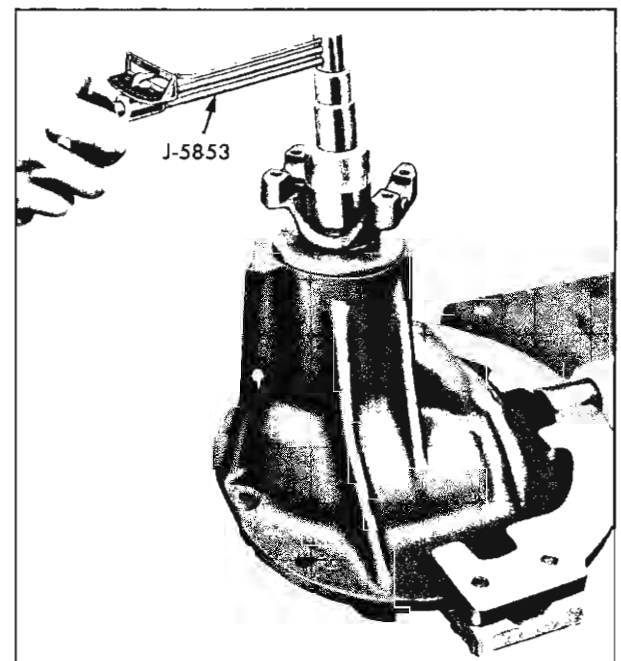
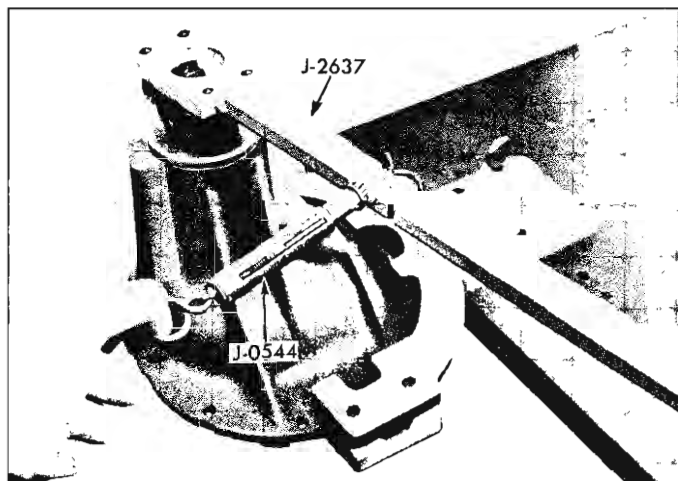

Fig. 29—Checking Preload, Torque Wrench
Fig. 30—Checking Preload, Scale
7. Tighten pinion flange nut, holding companion flange with Tool J-2637, until torque required to turn pinion is 15 to 25 inch pounds with new bearings and 5 to 15 inch pounds with old parts. This may require a nut torque of as high as 350 ft. lbs. Tool J-5853, fig. 29, or a scale may be used to determine the preload. Tool J-0544, Figure 30, should read $1\frac{7}{8}$ to $3\frac{1}{8}$ pounds new and $\frac{5}{8}$ to $1\frac{7}{8}$ pounds with old parts when applied to an eight inch radius, at notches in Companion Flange Holding Tool.